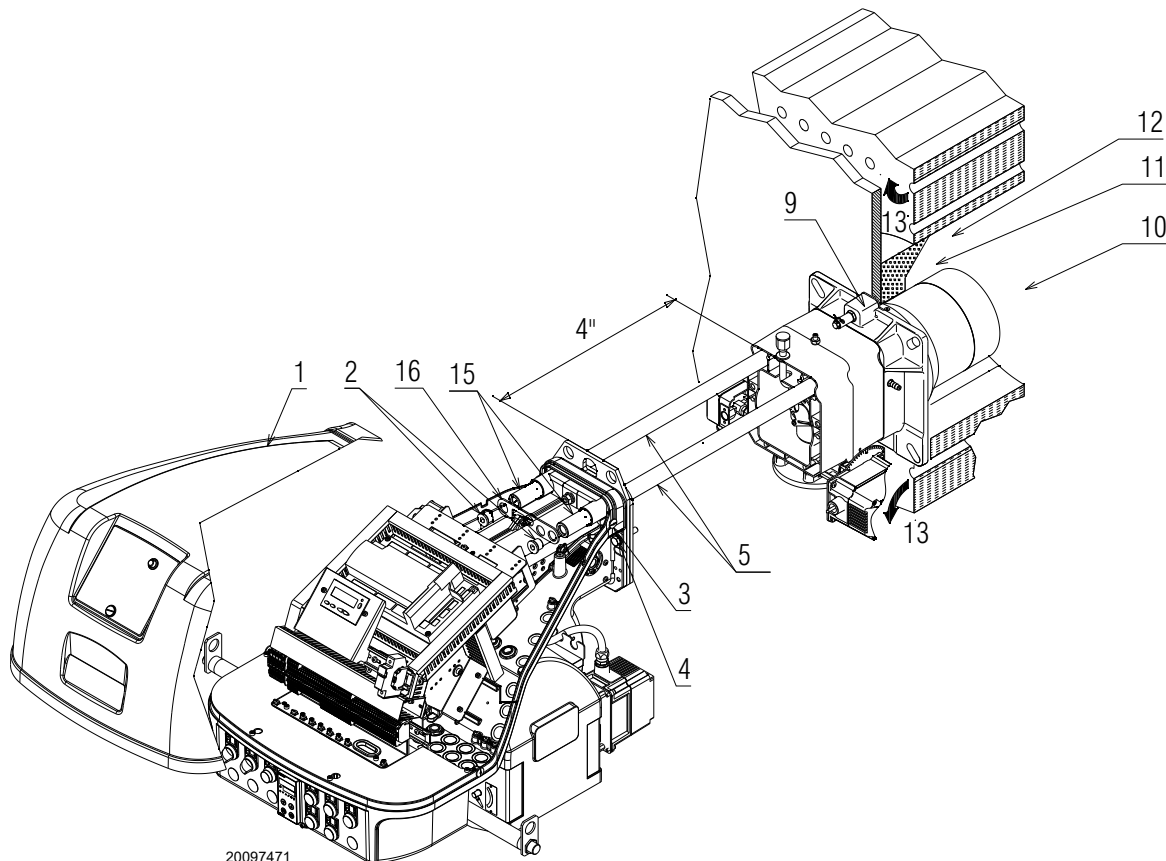

Fig. 11
- For boilers with front flue passes 13)(Fig. 11) or flame inversion chambers, a protection in refractory material 11) must be inserted between the boiler refractory 12) and the blast tube 10). This protection must not compromise the extraction of the blast tube.
- For boilers with a water-cooled frontal, a refractory lining is not necessary 11)-12)(Fig. 11) unless expressly requested by the boiler manufacturer.
Secure the burner to the boiler, fixing the flange 9)(Fig. 11) to the boiler plate and interposing the insulating gasket 8).
Detach the combustion head from the burner, (Fig. 11):
- install the extension bars 15)(Fig. 11, page 17) and re-screw the screws 2) including the safety plate 16);